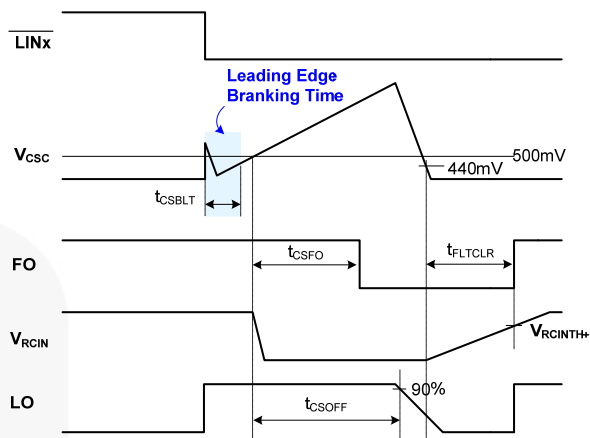

Figure 42.R_{CIN} and Fault-Clear Waveform Definition
Figure 42 shows the waveform definitions of RCIN, $\overline{\text{FO}}$, and the low-side driver; which uses a soft turn-off method when an under-voltage condition of the low-side gate driver supply voltage (V_{DD}) or the current-sense pin (CS) recognizes a fault. If a fault condition occurs, the $\overline{\text{FO}}$ Pin is internally pulled to COM and all outputs (HO1,2,3 and LO1,2,3) of the gate driver are turned off. Low-side outputs decline linearly by the internal sink current source ($I_{\text{SOFT}}=40\text{mA}$) for soft turn-off, as shown in Figure 42.